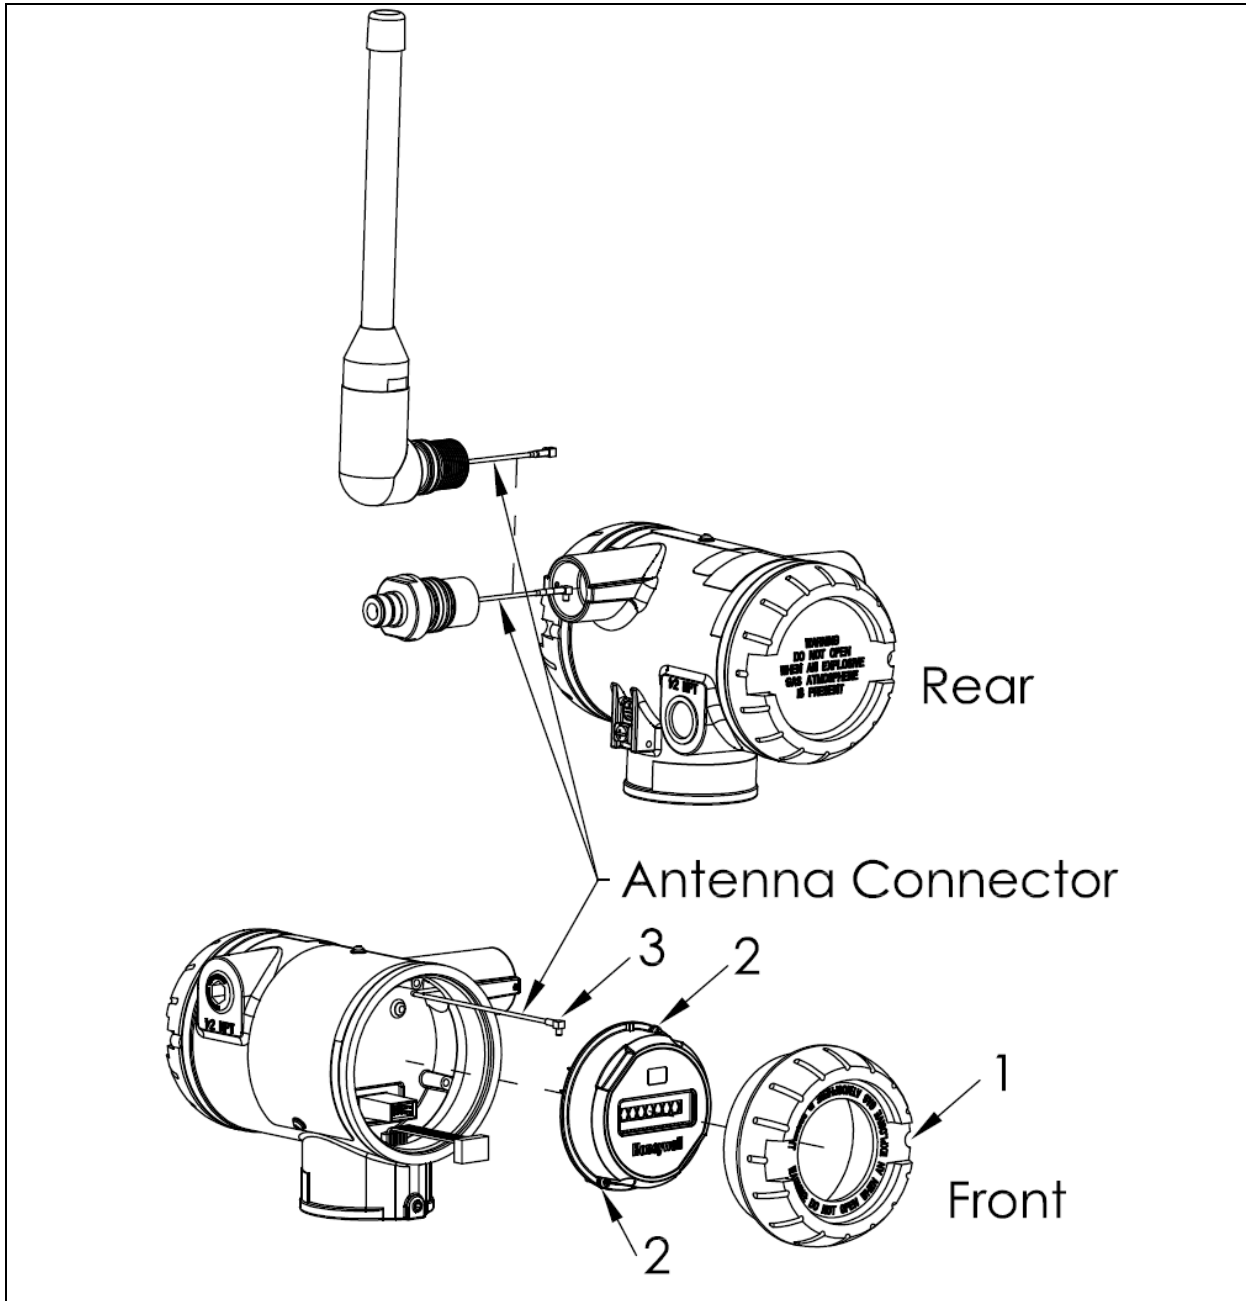

Figure 7-4: Antenna replacement
2	Loosen the M3 locking set screw on the display end-cap. See item 1 in Figure 7-4 . Unscrew and remove the front end cap.
3	Loosen the two screws on the sensor module. See items 2 in Figure 7-4
4	Remove the sensor module from the transmitter body and disconnect the antenna connector from CN2 connector on the sensor module. See item 3 in Figure 7-4
5	Loosen the locking set screw at the antenna base. Unscrew the antenna from the transmitter. Remove the antenna and its connector from the transmitter. See Figure 7-4
7	Attach antenna connector to CN2 connector on sensor module. See item 3 in Figure 7-4 .
8	Insert sensor module. Orient in the proper viewing orientation before tightening two sensor compartment screws. See items 2 in Figure 7-4 . Torque screws to 0,4 – 0,6 Nm (3.5 – 5.3 lb-in).